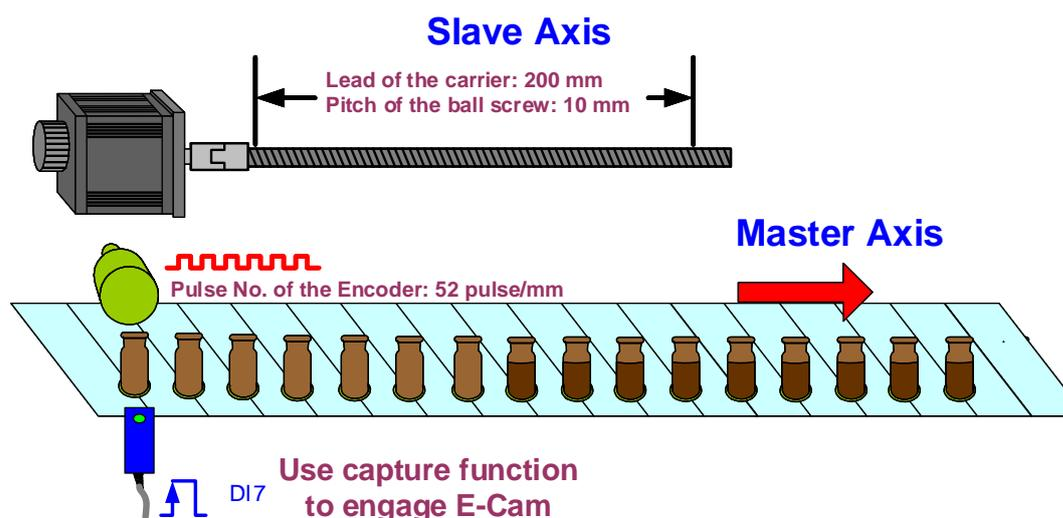

Figure 2.61 Mechanical Specification
The first step is to figure out the motion of the slave axis and mechanical specifications. Then, translate the motion into an E-Cam curve. Please note that the mechanical specifications might change the scale of the curve. The mechanical motion and specification below is also shown in Figure 2.61:
2. Specify the required pulse number when both master and slave axis operate every 1 mm. The unit of the master axis is pulse; the unit of slave axis is PUU. From Figure 2.61, we can know that when the master axis operates for 1 mm, the encoder will send 52 pulses; from calculation above, it takes 10000 PUU for the slave axis to operate every 1 mm.
**PR#0:** Homing procedure. Users can specify the homing method according to the mechanism. Take the mechanism in Figure 2.61 for example. The origin is on the far left. For this type of mechanism, it has to return to the origin first before taking the next step when system is started so as to avoid danger.